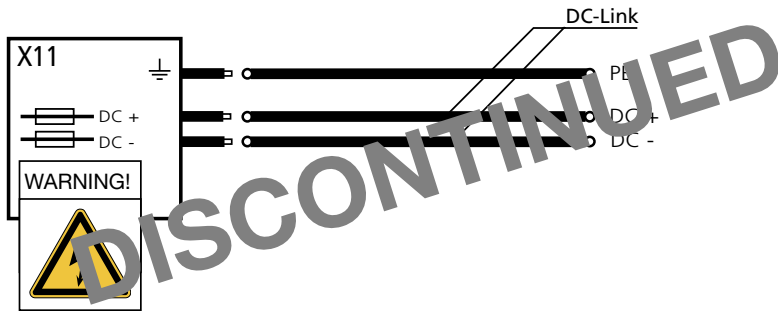
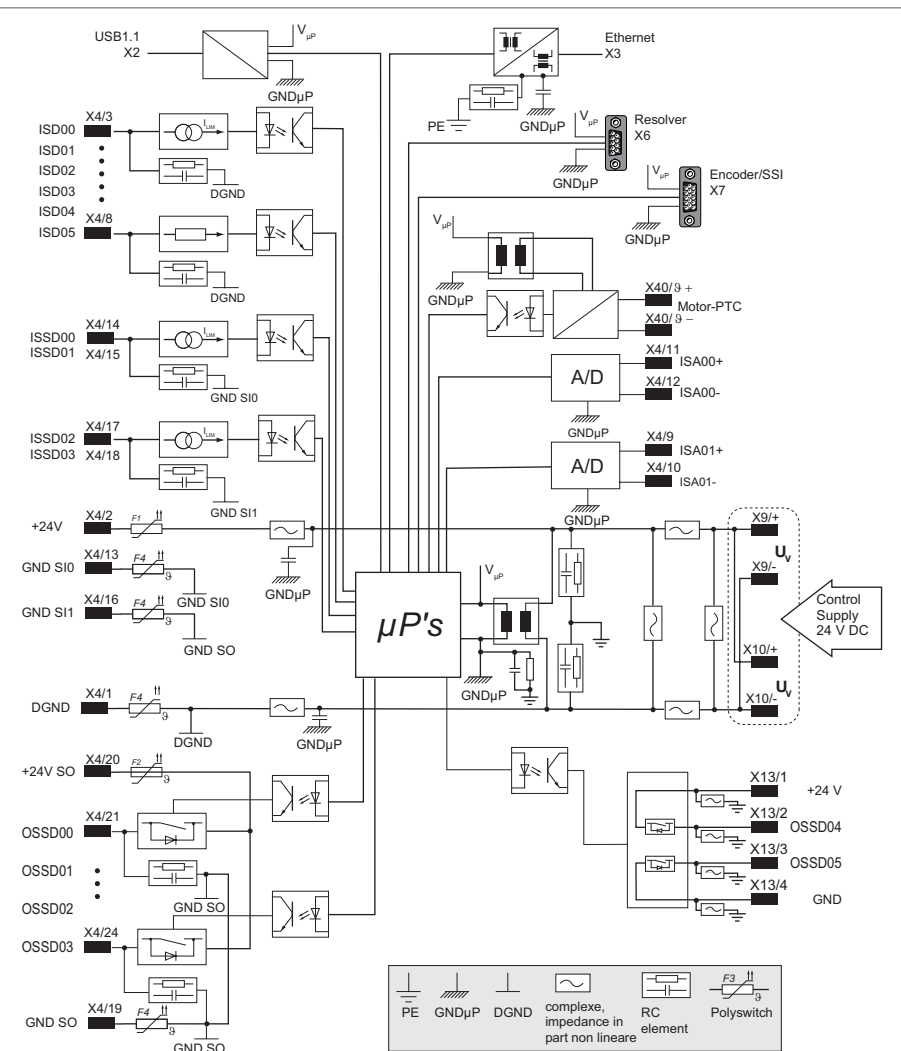

Figure 3.8 Power supply connection for ServoOne multi-axis system, DC-link (BG5)
Figure 3.9 Electrical isolation concept for size 1 to 5
1) Supply for power electronics (designation and connection system vary depending on size and device type, for details see Figure 3.8 to Figure 3.9 as well as the operating manual for the related device)